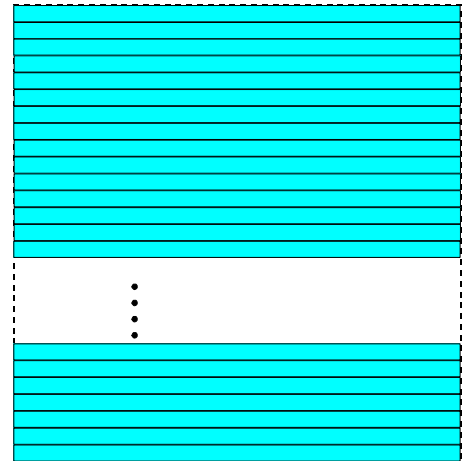

Fig. 60: Decimation Disabled (No Sub-sampling)
- 1: the complete frame will be transmitted out of the camera (no sub-sampling takes place); see Figure 60.